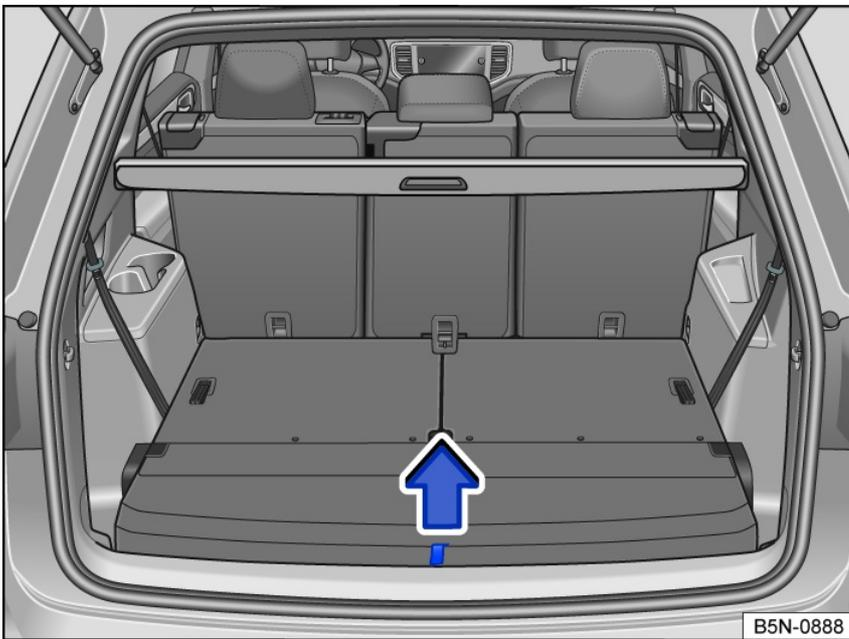

Fig. 152 In the luggage compartment: Lift up the luggage compartment floor.
- Pull the luggage compartment floor upwards by the loop *fig. 152* in the direction of the arrow and remove it.